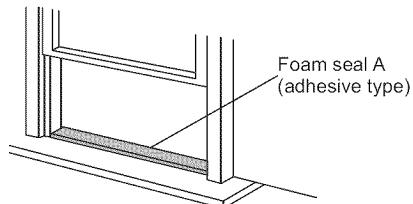

Fig.10
1. Cut the foam seal(adhesive type) to the proper length and attach it to the window stool. Shown as in Fig.10.